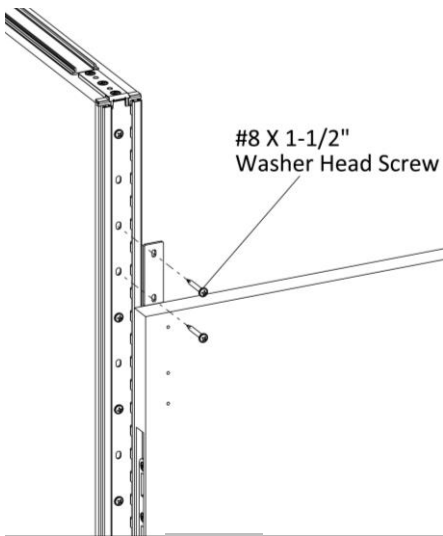

Figure 4
- Position the gallery panel with female bed fitting and standard panel to create a 90-degree angle, (Figure 4).